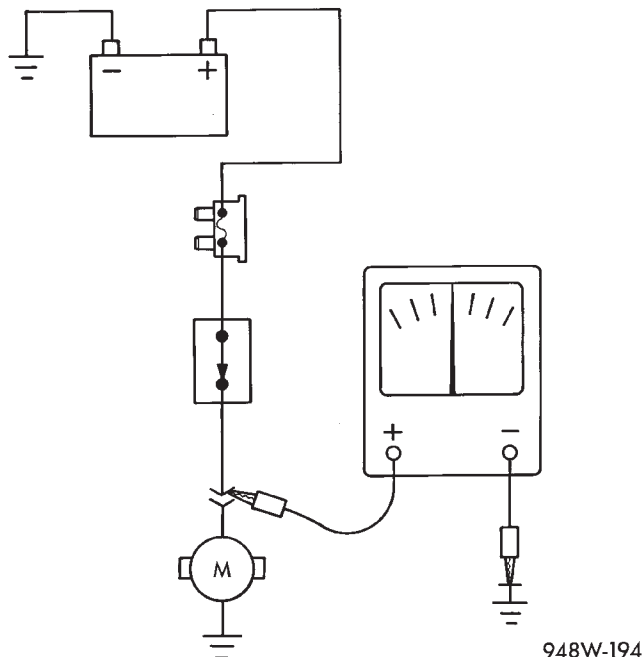

Fig. 6 Testing for Voltage Potential
(1) Connect the ground lead of a voltmeter to a known good ground (Fig. 6).
(2) Connect the other lead of the voltmeter to the selected test point. The vehicle ignition may need to be turned ON to check voltage. Refer to the appropriate test procedure.